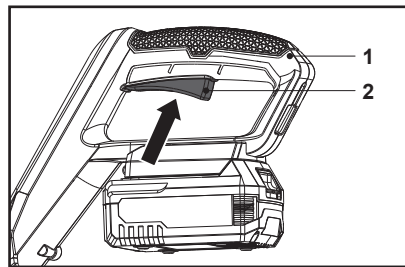

Fig. 14
1. Hold the product with one hand at the auxiliary handle (15) and with the other at the main handle (1).
2. Squeeze the on/off switch (2) to switch the product on (Fig. 14).
3. Release the on/off switch (2) to switch the product off.